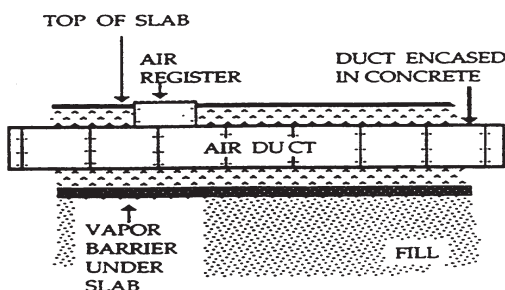
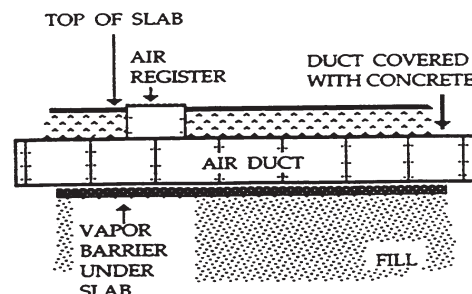

Figure 6-7. Intraslab air duct system.
Figure 6-8. Subslab air duct system.
**Structures with Ducts in the Slab.** Applying a termiticide to an existing structure with intraslab or subslab air circulation ducts must be done with great care. Intraslab ducts are completely encased in the slab (Figure 6-7). The ducts of a subslab system rest on a vapor barrier, with the concrete poured on top (Figure 6-8). Puncturing a duct or allowing termiticide to leak into these ducts results in serious problems.